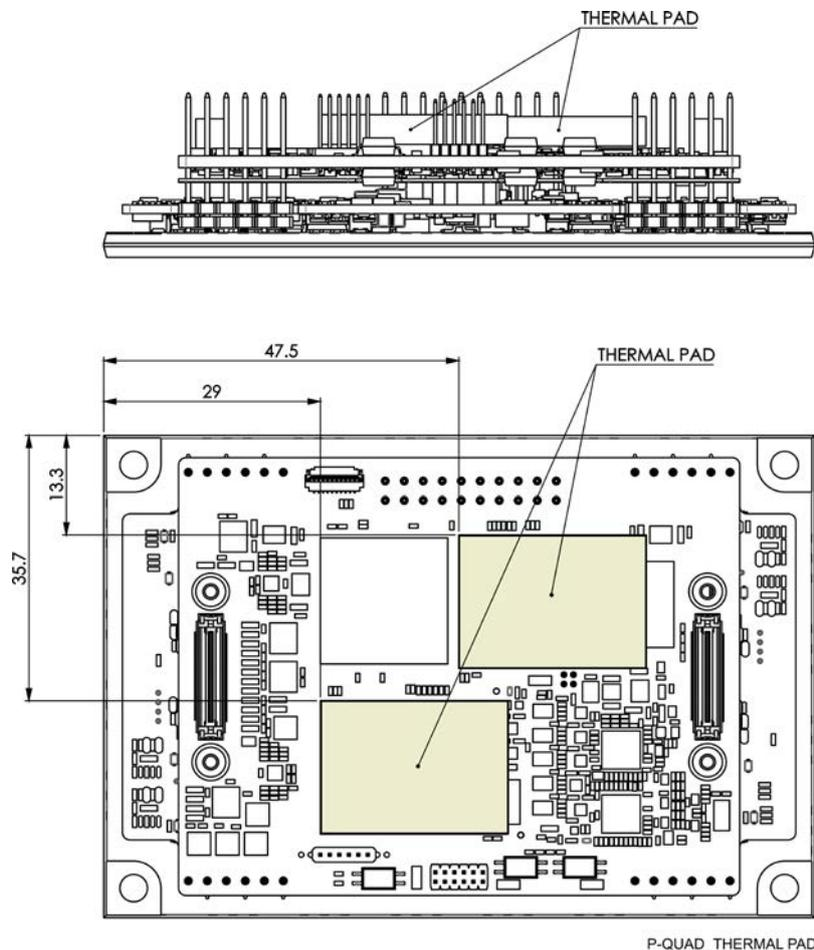

Figure 1: Aligning the thermal pads
To better absorb the heat from the surface of the Platinum Quad, make sure the pads are covering the areas showing in the diagram, see Figure 1.
2. Place one thermal pad on one of the areas shown in the diagram of the Platinum Quad. See Figure 1.